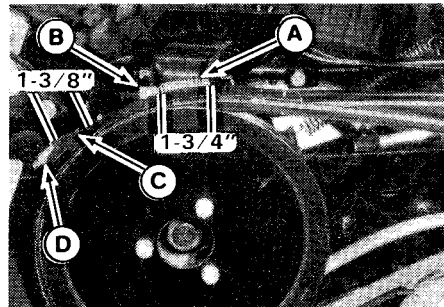

Figure 36. Pulley Brake Adjustment
- The pulley brake return spring (C, figure 36) should be compressed enough so that it measures $1\frac{3}{8}$ inches (35 mm) with the clutch-brake pedal released (up). If it does not, turn the nut (D) to obtain the proper measurement.
- While holding the clutch-brake pedal down fully, measure the length of the rear spring (A) on the pulley brake rod. It should be compressed to $1\frac{3}{4}$ inches (45 mm). If it is not $1\frac{3}{4}$ inches, loosen the adjusting nut (B) and move it forward or back until the proper measurement is